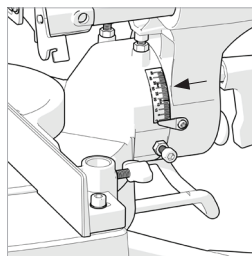

Fig. 34
- Tilt the Cutting Head to the required angle. A protractor scale is provided as an aid to setting. (**Fig 34**)